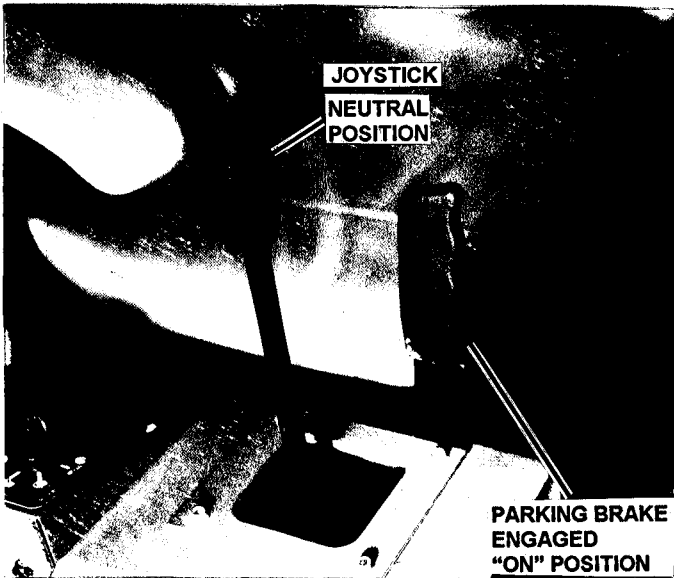

FIGURE 2.7
1. Stop motion of riding mower by moving joystick to neutral (N) position. See Figure 2.7.